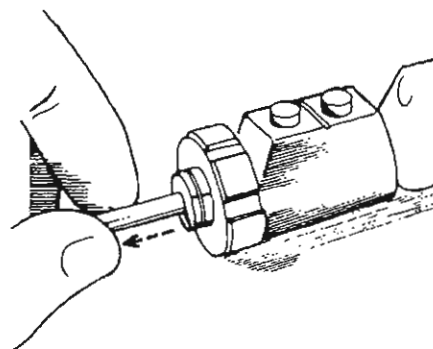

Figure 2-6. Cutter/bur insertion check.
*c.* Ensure that the location key on the cutter/bur shaft is securely engaged into the key receptacle on the handpiece. Gently pull on the cutter/bur to ensure that it is securely affixed as illustrated in figure 2-6.